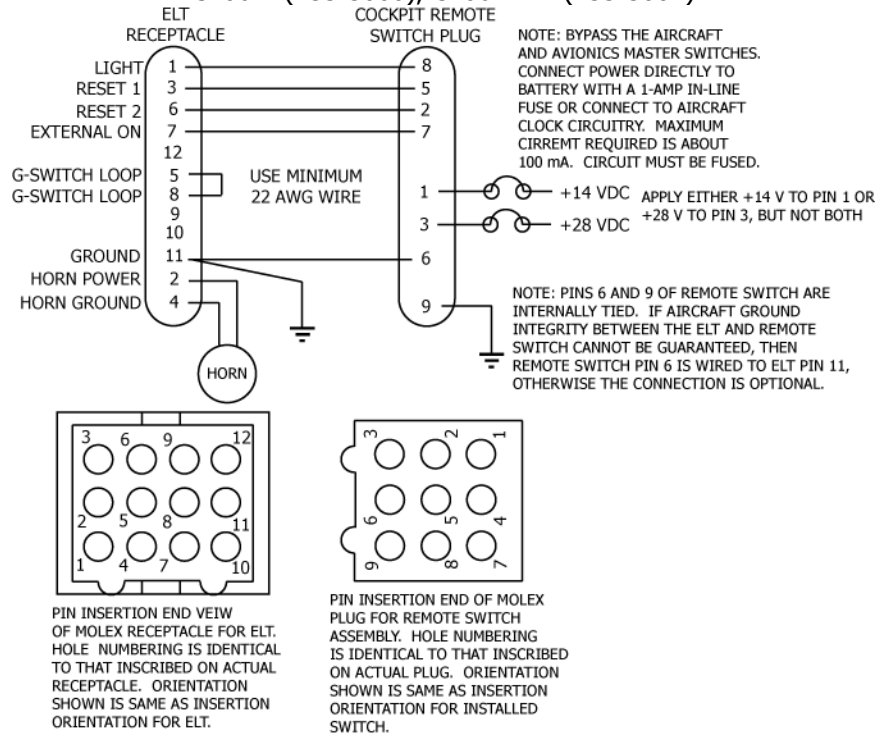

Figure 22 Remote Switch Harness Wiring Diagram
2) Fabricate a 5-wire harness long enough to reach from the ELT to the cockpit remote switch, allowing enough slack to provide a drip loop at the ELT end and a service loop at the cockpit remote switch end. See Figure 22 on page 50.
3) Three additional wires are required. See Figure 22 on page 50.
- 4) Insert the wiring pins in the harness ELT 151-5012 Molex 12-pin receptacle. See Figure 22 on page 50.
- 1) Insert the wiring pins in the 151-5009 Molex 9-pin cockpit remote switch plug. See Figure 22 on page 50.
- 1) Connect the ground wires to the airframe in accordance with the aircraft manufacturer's written instructions or as described in AC 43.13-1, Chapter 11, § 15, as applicable. See Figure 22 on page 50.